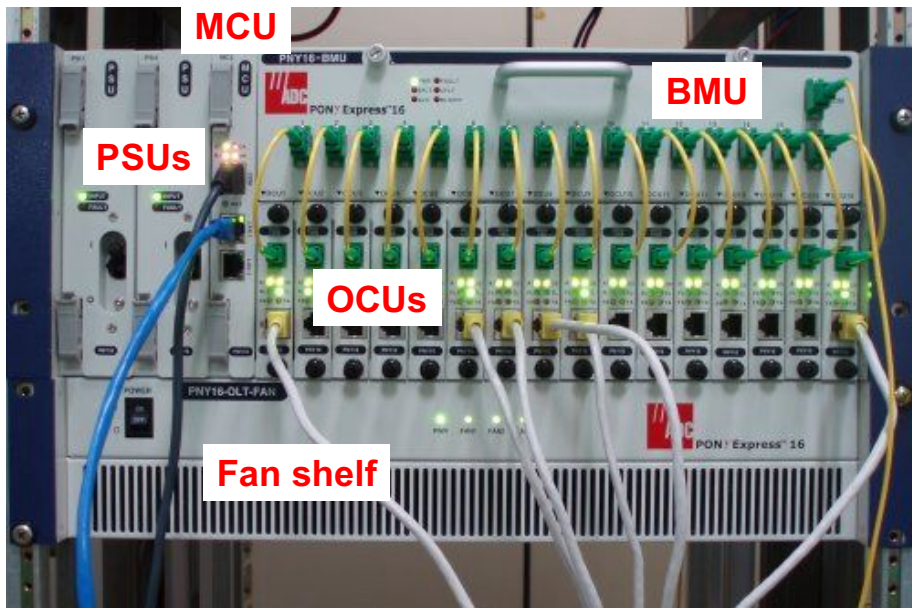

Figure 3-2 OCU and BMU optical connection, OCU and L3 switch electrical connection
- For optical connections between OCU and BMU, use the SC/APC type optical patch cord (2.4 mm thick, 20 cm long) that are providing in the OCU shipping boxes. (See Fig. 3-2 for connection example)
- For electrical connection (RJ45) between Aggregation switch in CO with OCU, use the straight type STP cable (Cat. 5e or Cat. 6). (See Fig. 3-2 for connection example)